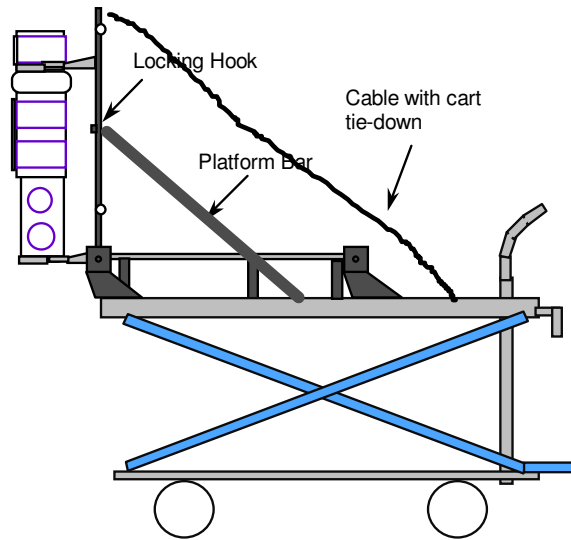

Figure 3. Side View of RM Cart with QB/RM Vertical (not to scale)
- 5.2.3 With one person on each side of the cart to ensure against tipping of the cart, each holding a square support block on the bar near the telescope interface, rotate the RM about its hinge 90 degrees to vertical. A third person raises the platform bar lever and positions it in its locking slot on the RM. Once the bar is locked in place, the others may let go of the QB/RM. See Figure 3 below.